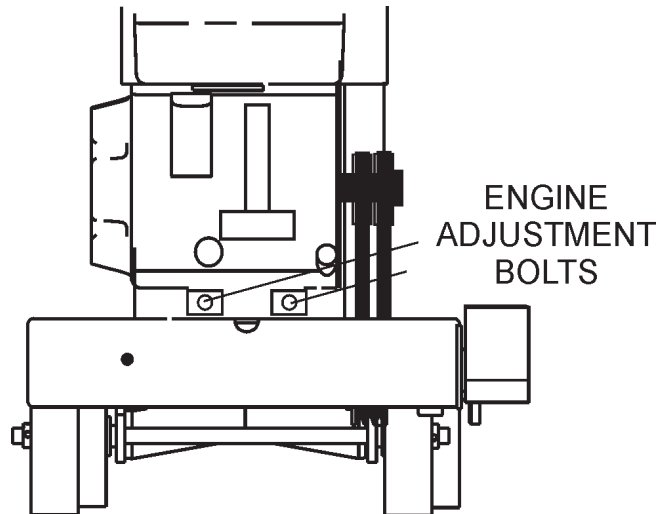

Figure 26. V-Belt Adjustment
- Loosen the engine adjustment bolts (Figure 26).